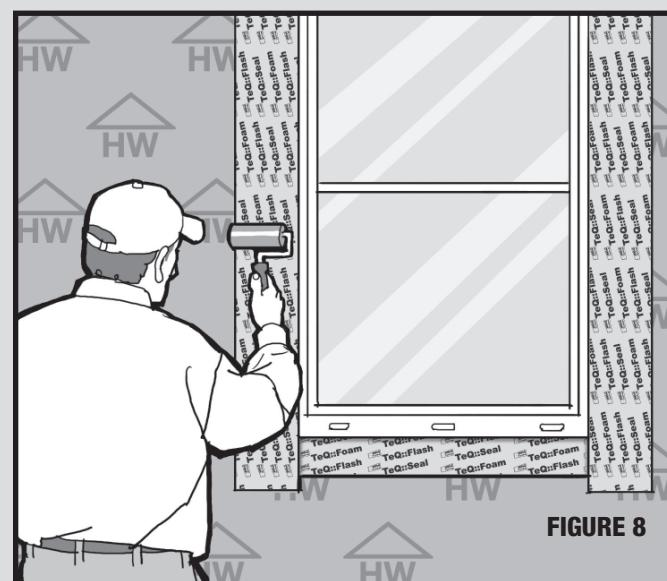

FIGURE 8
4.3.1. Roll smooth to ensure air bubbles are removed and intimate contact is made between substrates. (Figure 8)